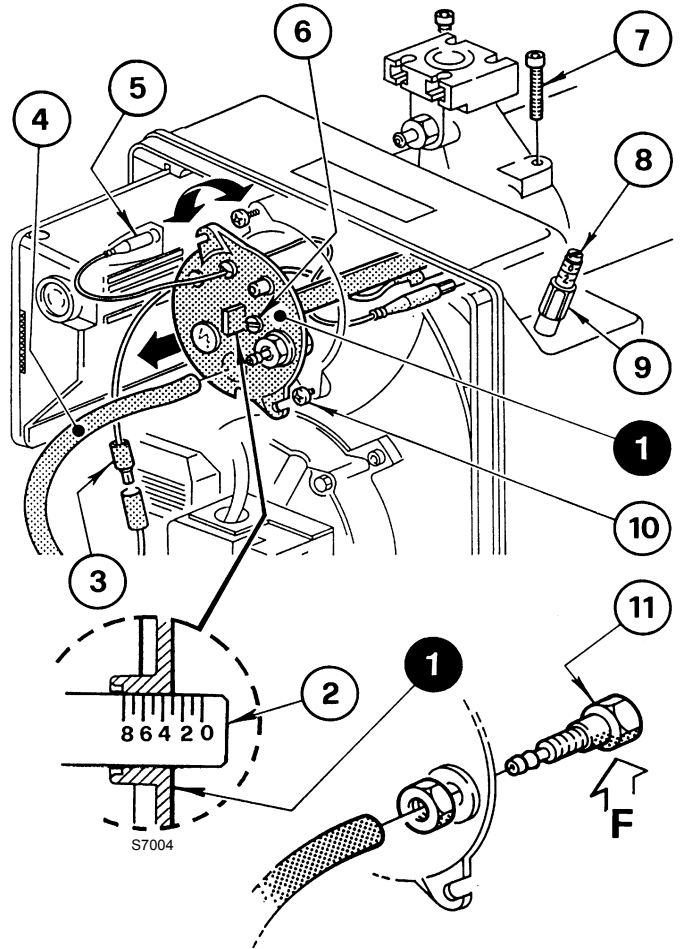

Fig. 13
This is carried out by turning the adjustment screw 6)(Fig. 13) clockwise or anti-clockwise until the notch on the regulating rod 2) lines up with the outside surface of the head assembly 1).
In Fig. 13 the head regulating rod is set to notch 3.
To remove the head assembly (Fig. 13) it is necessary to:
Reassemble with the reverse procedure to that described above, repositioning the head assembly 1)(Fig. 13) as it was originally.
Screw in the screws 7)(Fig. 13) all the way without locking them. Lock them with a tightening torque of 3 - 4 Nm.
If the pressure test point (11) should become slack accidentally(Fig. 13) we recommend fixing it correctly ensuring that the hole (F)(Fig. 13) inside the head assembly 1)(Fig. 13) is facing downwards.